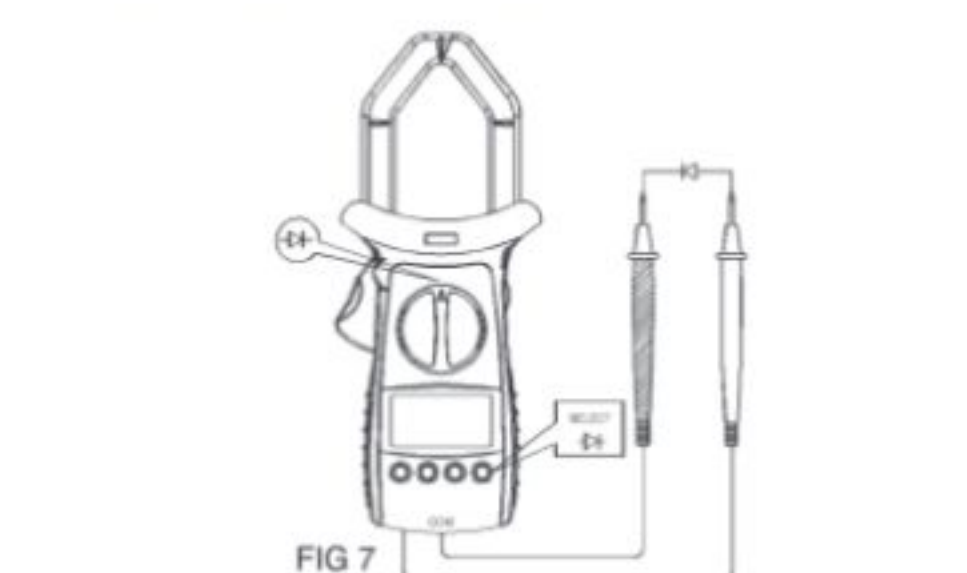

FIG 7
E. Testing Diodes (See Figure 7)